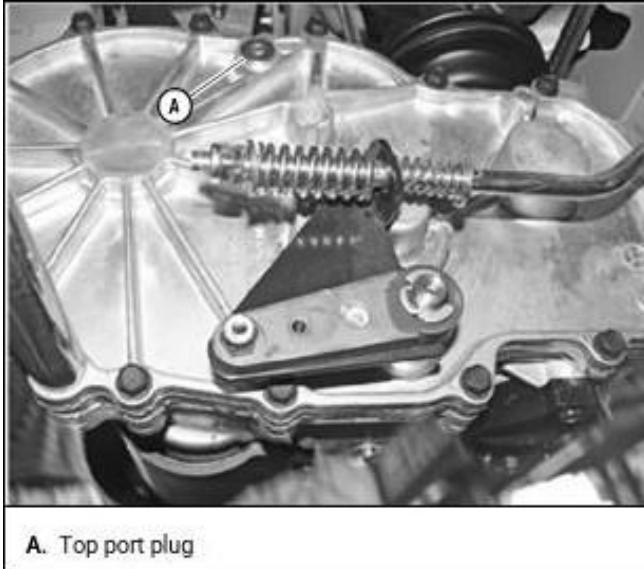

Figure 13
[Figure 13]
11. Fill with SAE 20W50 motor oil, 15W50 synthetic oil or 20W50 synthetic oil (Full Synthetic 20W50 Hydrostatic Transmission Oil is recommended) until oil just appears at the bottom of each transaxle's top port (approximately 2 qts. per transaxle). Install the top port plug into each transaxle. Torque plugs to 180 in- lbs. Clean up any oil that leaked from the ports. [Figure 13]